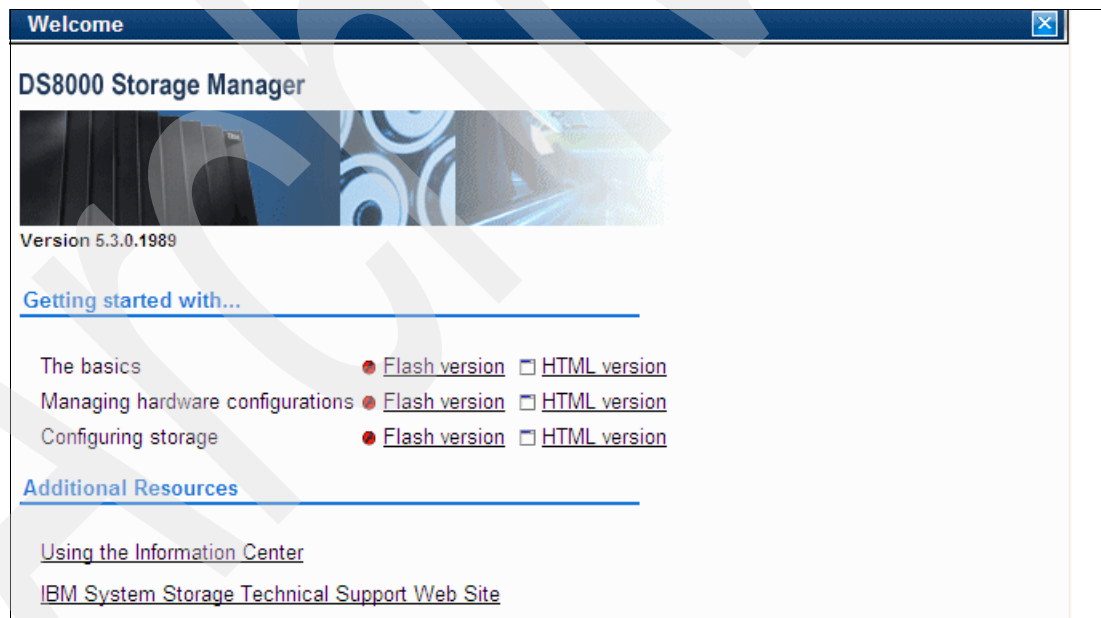

Figure 12-3 DS8000 Storage Manager: Getting started
2. On the main page of DS Storage Manager, in the left navigation panel, select **Real-time manager** → **Copy Services** → **Metro Mirror**, as shown in Figure 12-3.